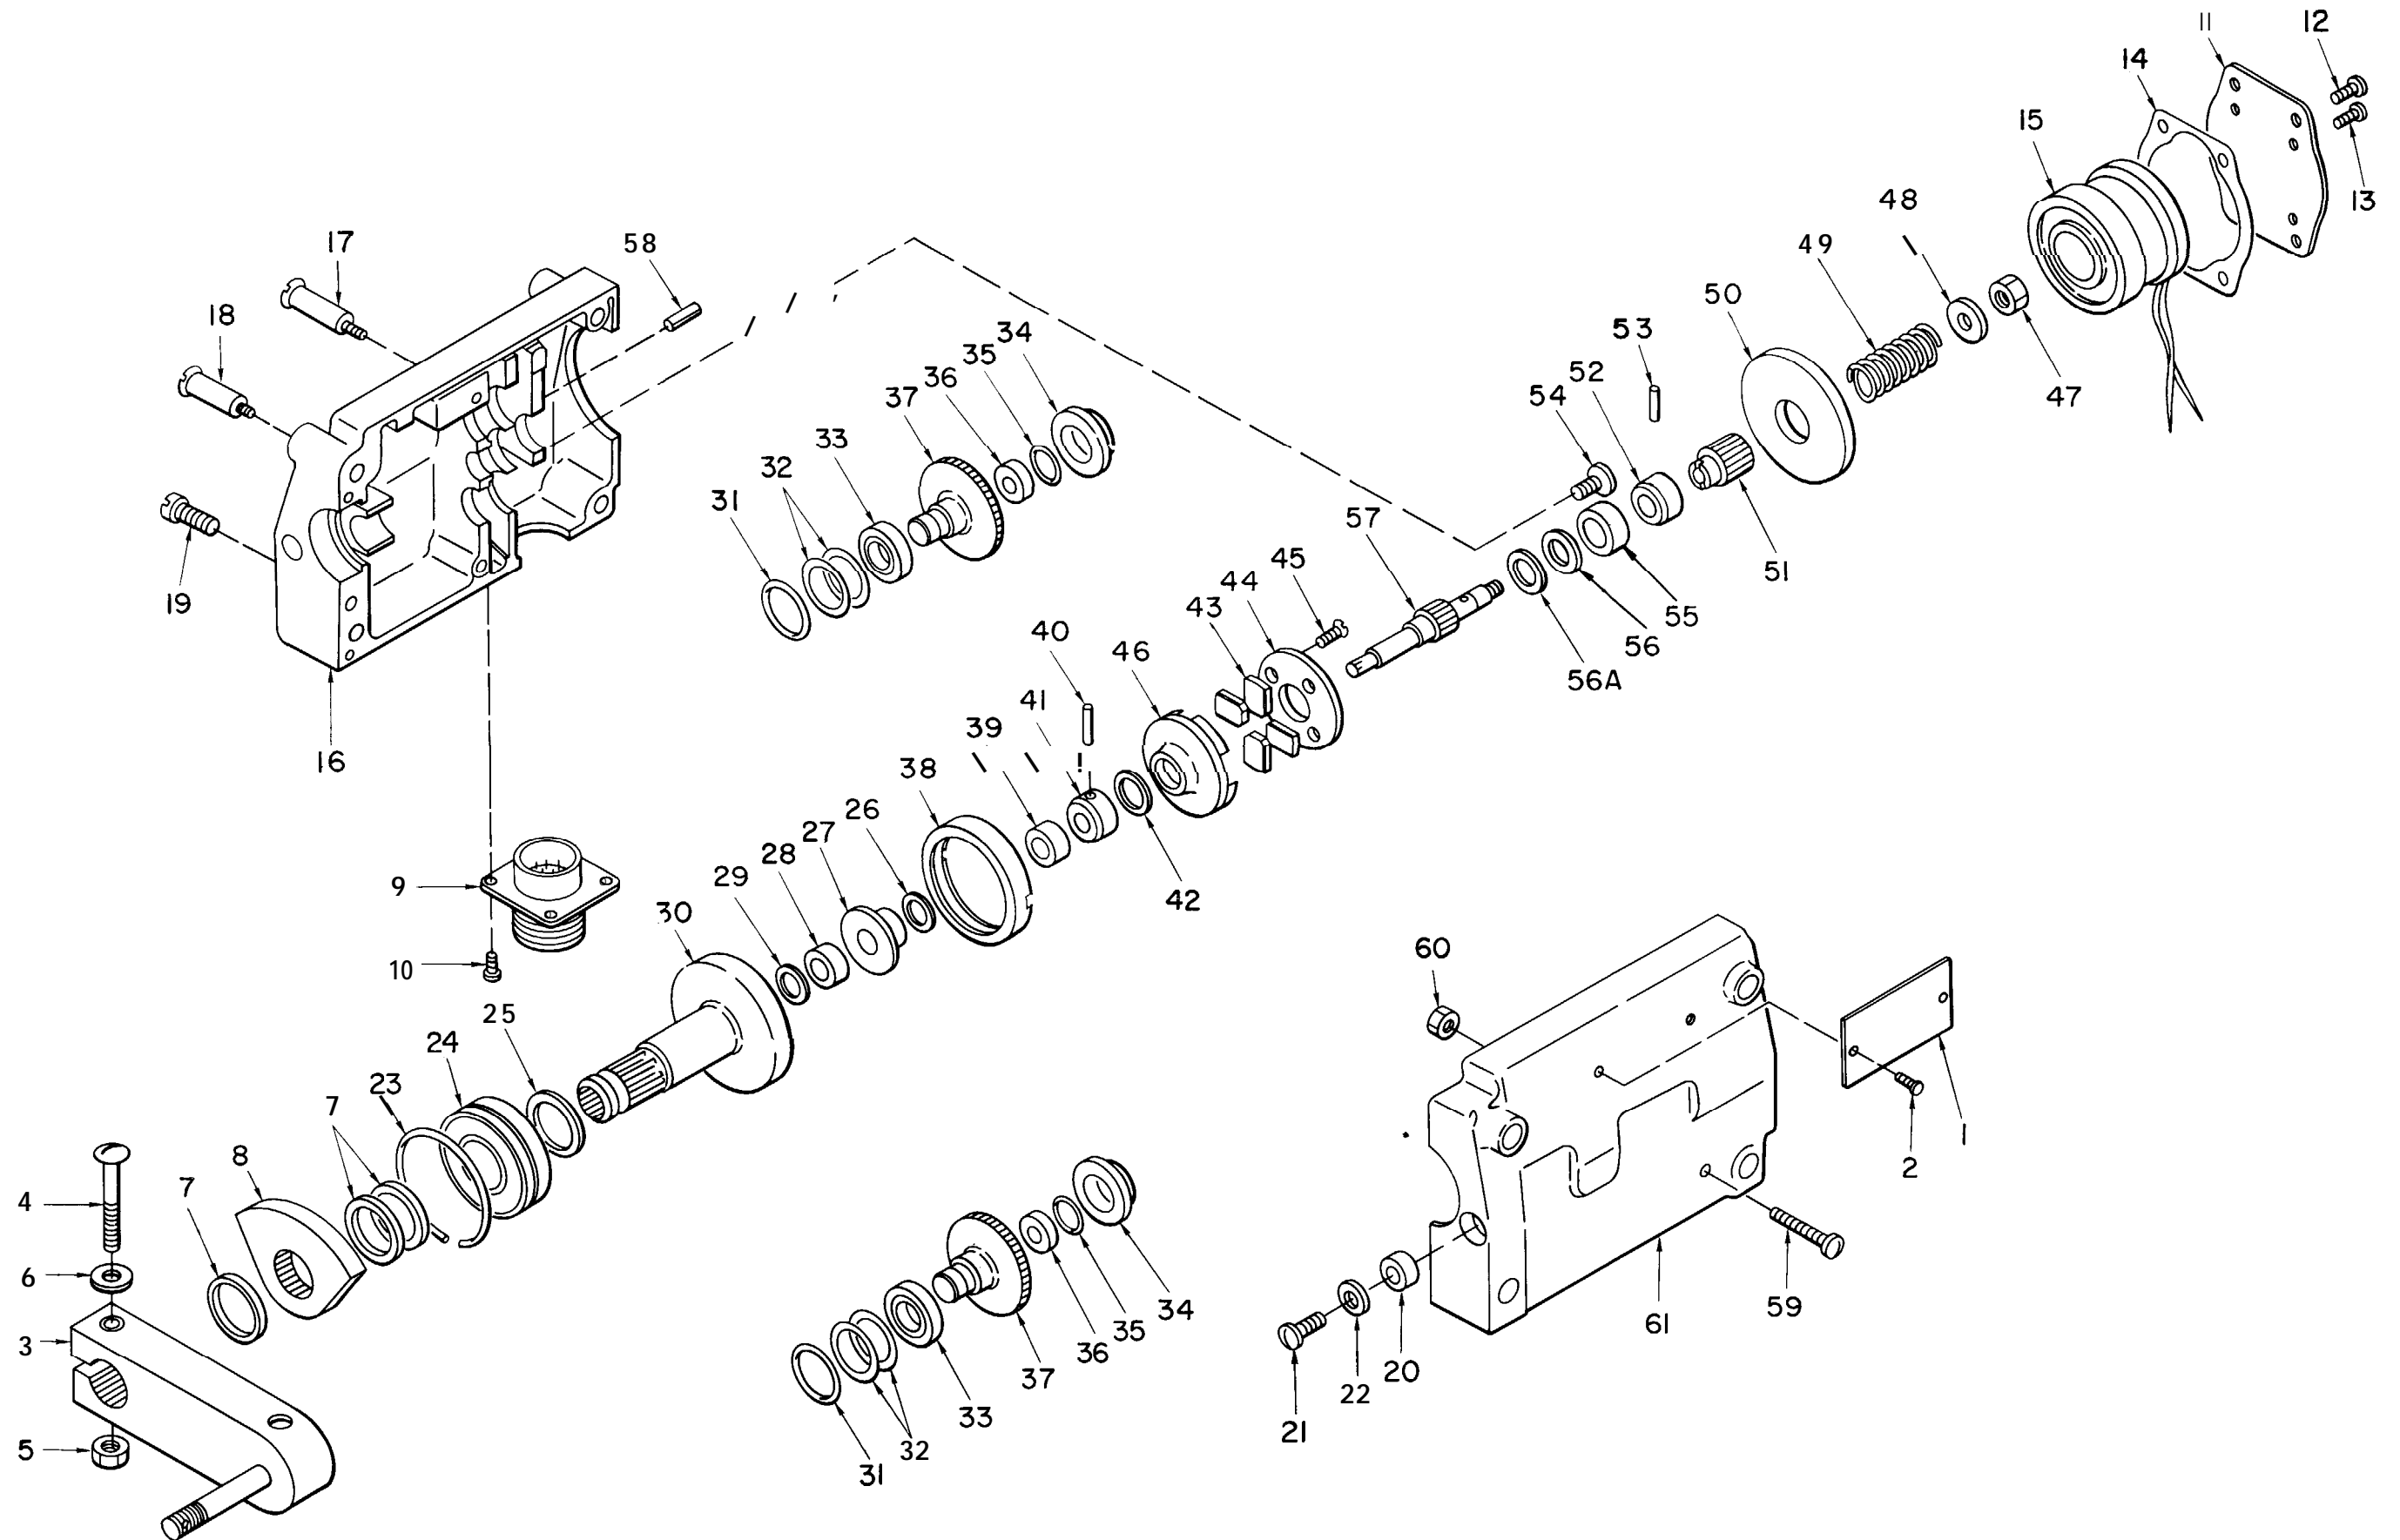
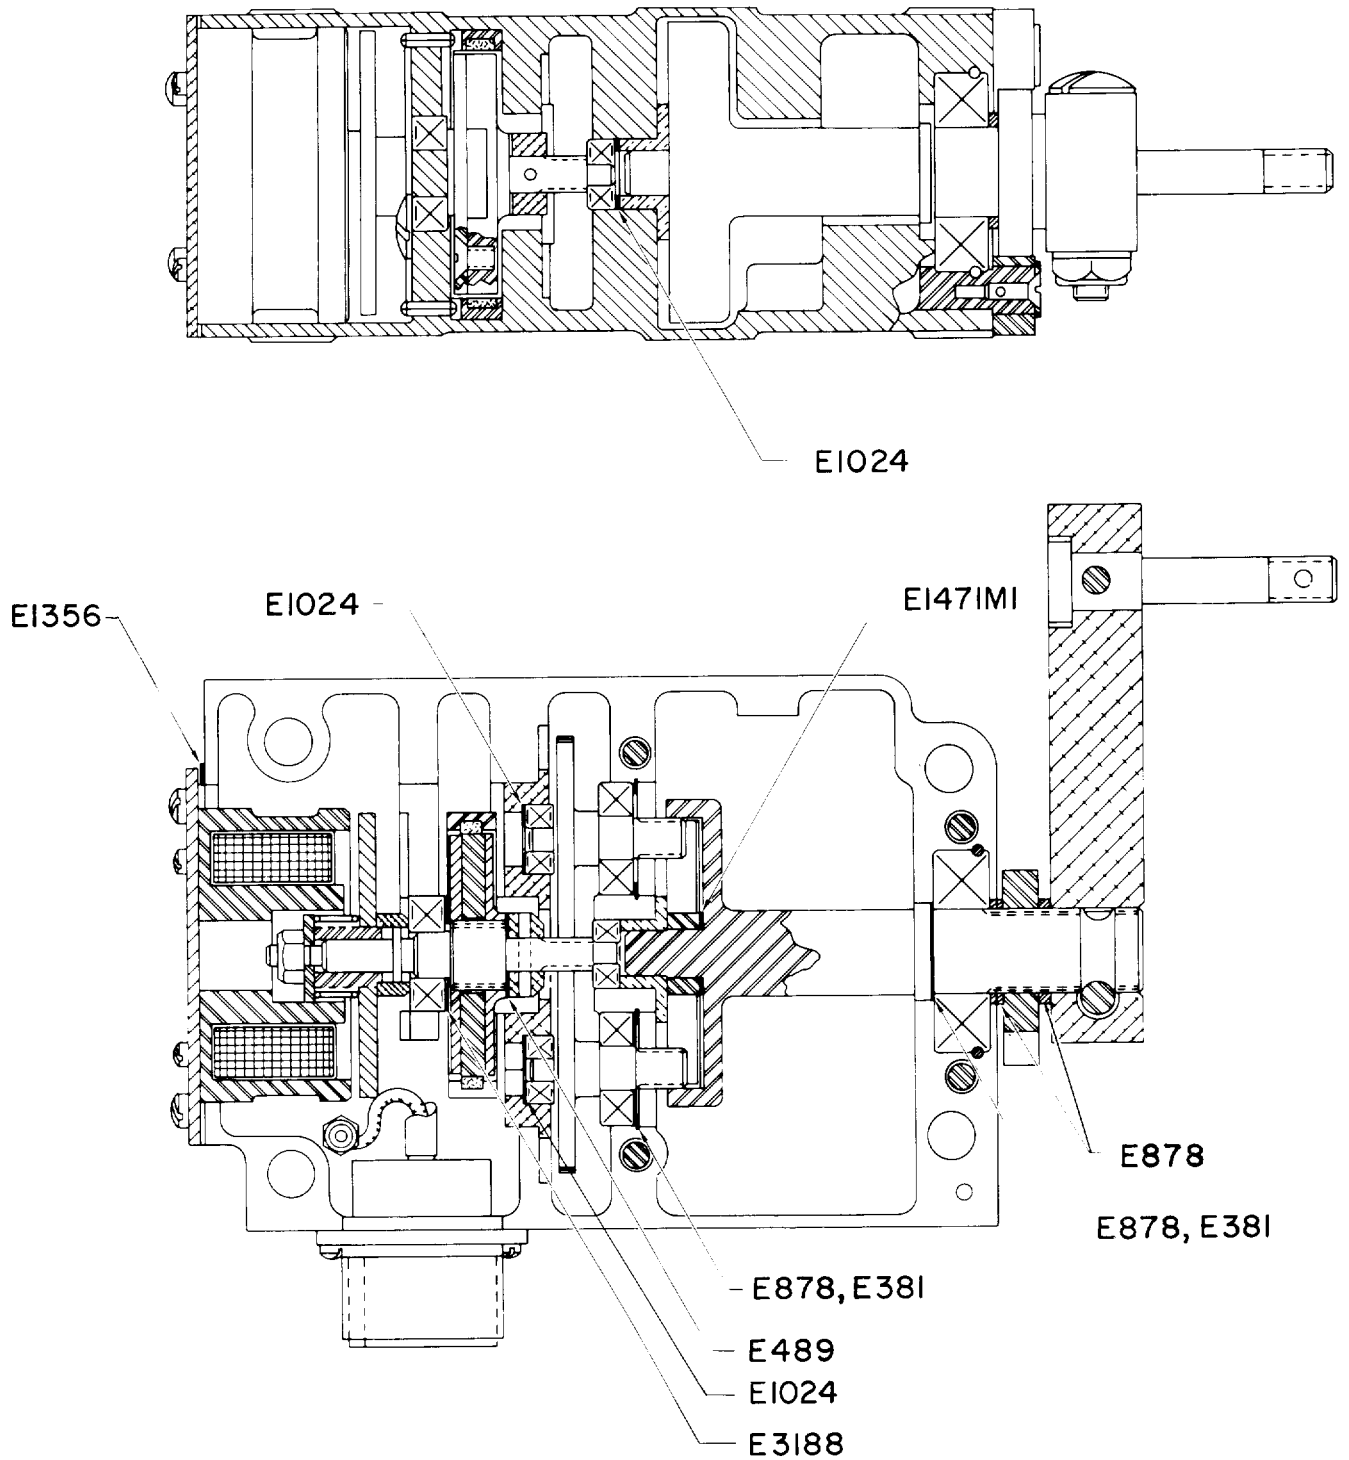
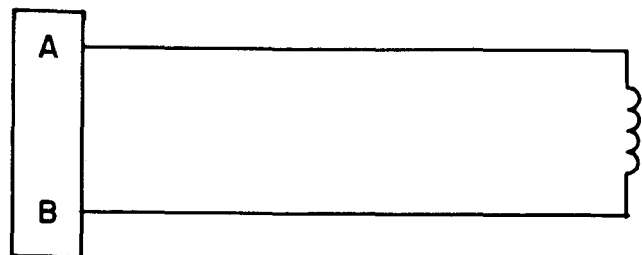

Figure 3-1. Magnetic Brake Assembly, Exploded View, Part No. R460M10, R460M15 and R460M15-3.
Figure 3-2. Shim Location Diagram, Part No. R460M10.
Figure 3-3. Wiring Diagram, General.
Do not use dry cleaning solvent to clean electrical connector (9, figure 3-1), coil and core assembly (15), and brake drum (38).
a. Clean electrical connector (9), coil and core assembly (15), and brake drum (38) with a non-wire brush. Blow loose foreign particles from parts using dry, filtered, low pressure, compressed air. Wipe parts with a dry, lint-free cloth.
b. Clean all other parts with dry cleaning solvent (item 1, table 2-2).
c. Check coil and core assembly (15, figure 3-1) for continuity of winding and condition of insulation. Check to see that resistance of brake coil is 67 ± 7 ohms at 77°F (25°C).
d. Inspect brake drum (38) for worn or damaged lining.
h. Measure the force required to compress spring (49) to its working length. Working length shall be 0.24 ± 0.01 inch with a 16 ± 1 ounce load applied.
a. Apply a light coating of grease (item 2, table 2-2) to all ball bearings, gears, and pinions.
b. Apply anti-seize compound (item 3, table 2-2) to threads of all aluminum screws and to all steel screws that anchor into aluminum parts, except screws (19 and 54, figure 3-1).
Reassemble the magnetic brake in the reverse order of disassembly. (See figures 3-1 through 3-3.)
Insure that gear housings (16 and 61, figure 3-1) have identical matched numbers before starting assembly procedures.
a. Install retaining ring (23) on bearing (24).
b. Slide shims (25) and bearing (24) on splined end of output gear (30). Install washer
(29) and bushings (28 and 27) onto housing and output gear (30).
c. Position output gear assembly (items 23 through 25 and 27 through 30) in gear housing (61). Position gear housing (16) over gear housing (61) and secure with screws (19). Measure end play of output gear assembly. End play shall be between 0.002 and 0.007 inch. Add or remove shims (25), as required, to obtain end play limits.
d. Remove screws (19), separate housings, and place output gear assembly aside.
e. Install ball bearing (33), shims (32), and retaining ring (31) on larger shaft end of helical gear (37). Install ball bearing (36), shims (35), and bearing liner (34) on smaller shaft end of helical gear (37). Position the side gear assembly in gear housing (61), (See figure 3-2). If the shimming prevents seating of the side gear assembly, use other bore in gear housing (61, figure 3-1), Assemble and install the second side gear assembly in the same way. Alter shims (32 and 35) to eliminate end play. Helical gears (37) must be aligned with each other.
f. Repeat procedure in *e* above, using gear housing (16) in place of gear housing (61). At final assembly use the housing that requires the least number of shims (32 and 35) to eliminate end play.
i. Install shims (56) and ball bearing (55) on threaded end of gearshaft (57). Insert pin (53) through hole in gearshaft (57) and position collar (52) over pin. Seat bushing (51) inside collar (52) with notch on end of bushing seated firmly on pin (53), Slide clutch disk (50) on splines of bushing (51) and against collar (52). Install spring (49), washer (48), and nut (47).
t. Make electrical wiring connections between coil and core assembly (15) and connector (9), and position in housing. (See figure 3-3). Mate gear housing (16, figure 3-1) with gear housing (61) and secure with screws (17, 18, and 19). Stake screws (17 and 18) and secure screws (19) with adhesive (item 4, table 2-2).
u. Align coil and core assembly (15), and install mounting spacer (14) and brake adapter (11) on end of housing assembly. Install connector (9) on housing.
n. Reinstall crank arm assembly (3, figure 3-1).
5-8. *Disassembly.* Substitute figure 5-2 for figure 3-1. Shim (56A) shall be removed along with shim (56) as shown in paragraph 3-3h.
5-13. *Reassembly.* Same as for part no. R460M10 except substitute figure 5-2 for figure 3-1, and figure 5-3 for figure 3-2. If optional stud, part no. 5690906, is to be installed in place of screw (59, figure 5-2) and nut (60), use a riveting fixture and a staking machine to rivet the stud in place. Install shim (56A) along with shim (56) as shown in paragraph 3-7i. Add the following leak check at the end of reassembly: Connect air seal test adapter AT2652-4 to air seal test panel AT2652. Remove one screw (12) and install air seal test adapter AT2652-4 in the vacated hole. Using air seal test panel AT2652, pressure test the magnetic brake for air leaks. The brake shall